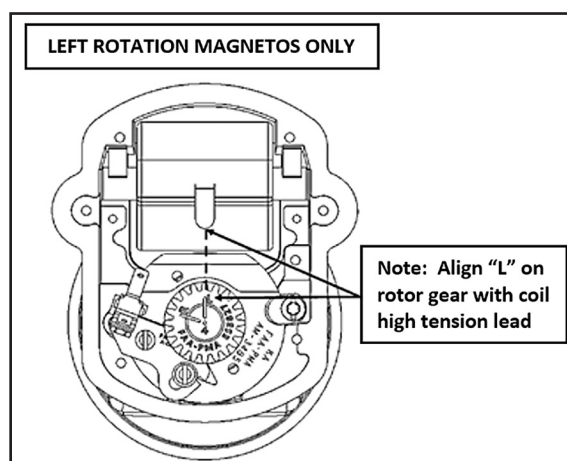

Figure 6.13 – Left Rotation Alignment
- (1) **LEFT ROTATION MAGNETOS:** Align the gear tooth labeled “L” on the rotor shaft gear (11a) so that it aligns with the high tension lead on the coil (17). Refer to Figure 6.13.